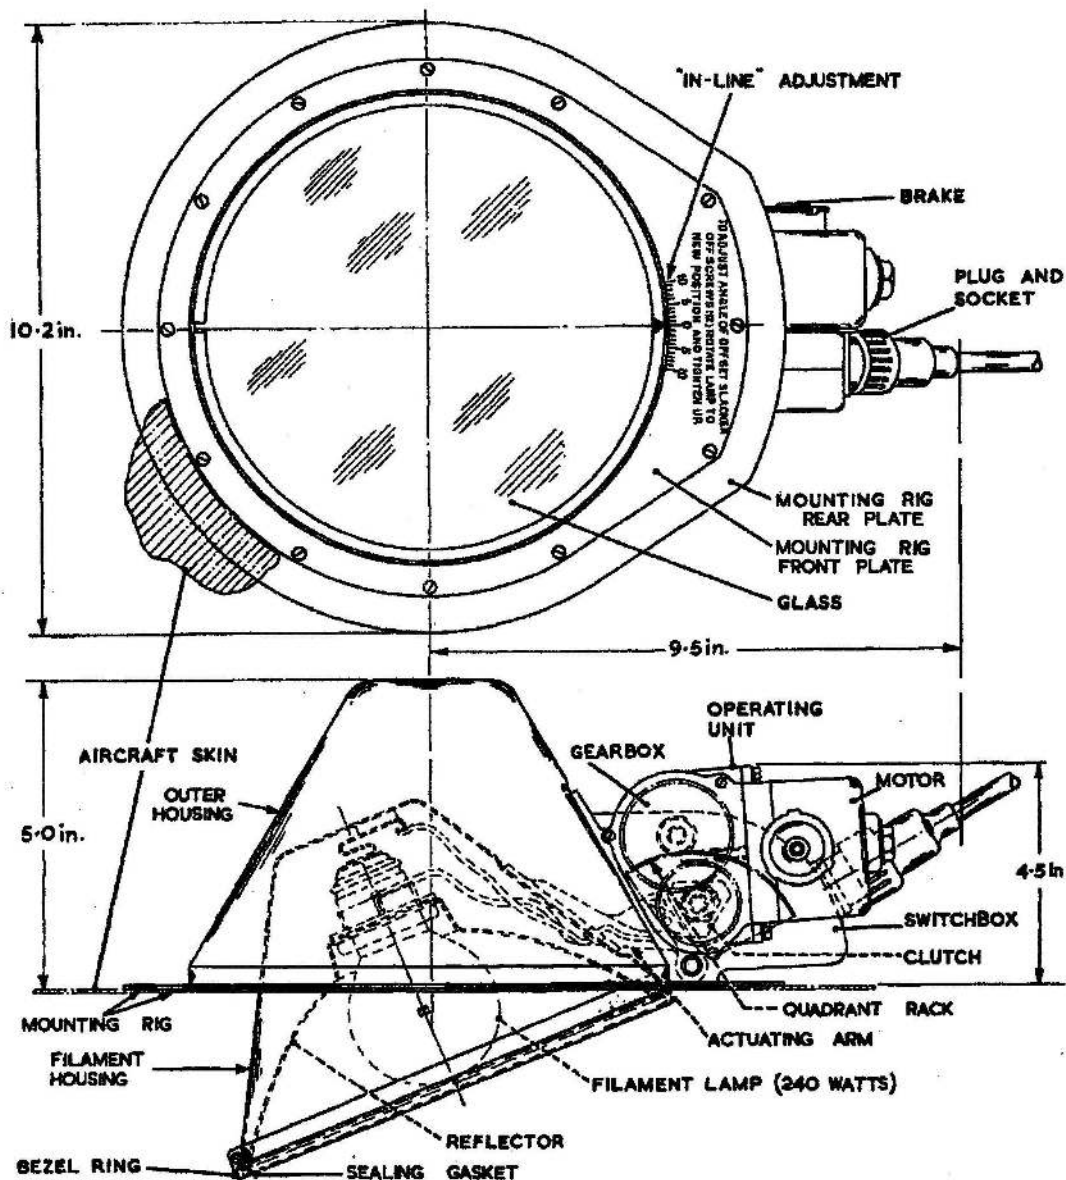

Fig. 1. Type J landing lamp
Outer housing (fig. 1)
4. An index mark on the bezel ring of the front glass (fig. 1) registers against the scale on the mounting rig front plate. When the twelve clamping screws are slackened the whole lamp may be rotated in its mounting rig. This permits adjustment of the beam within ± 10 deg. either side of the fore-and-aft line of the aircraft.